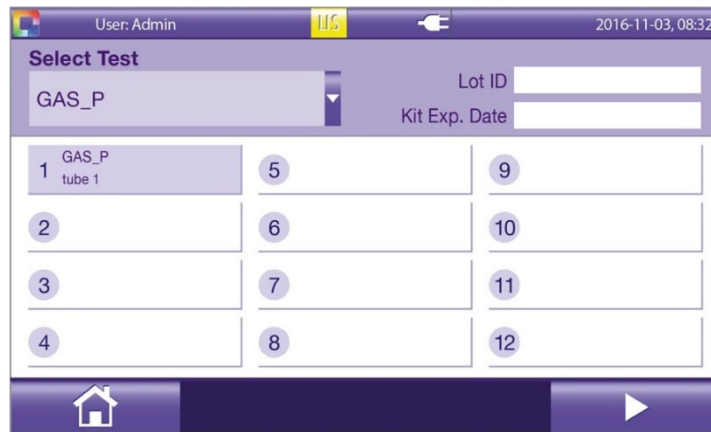

Figure 50
- Assign test methods according to the instructions in the **Start New Test** section (Figure 50).